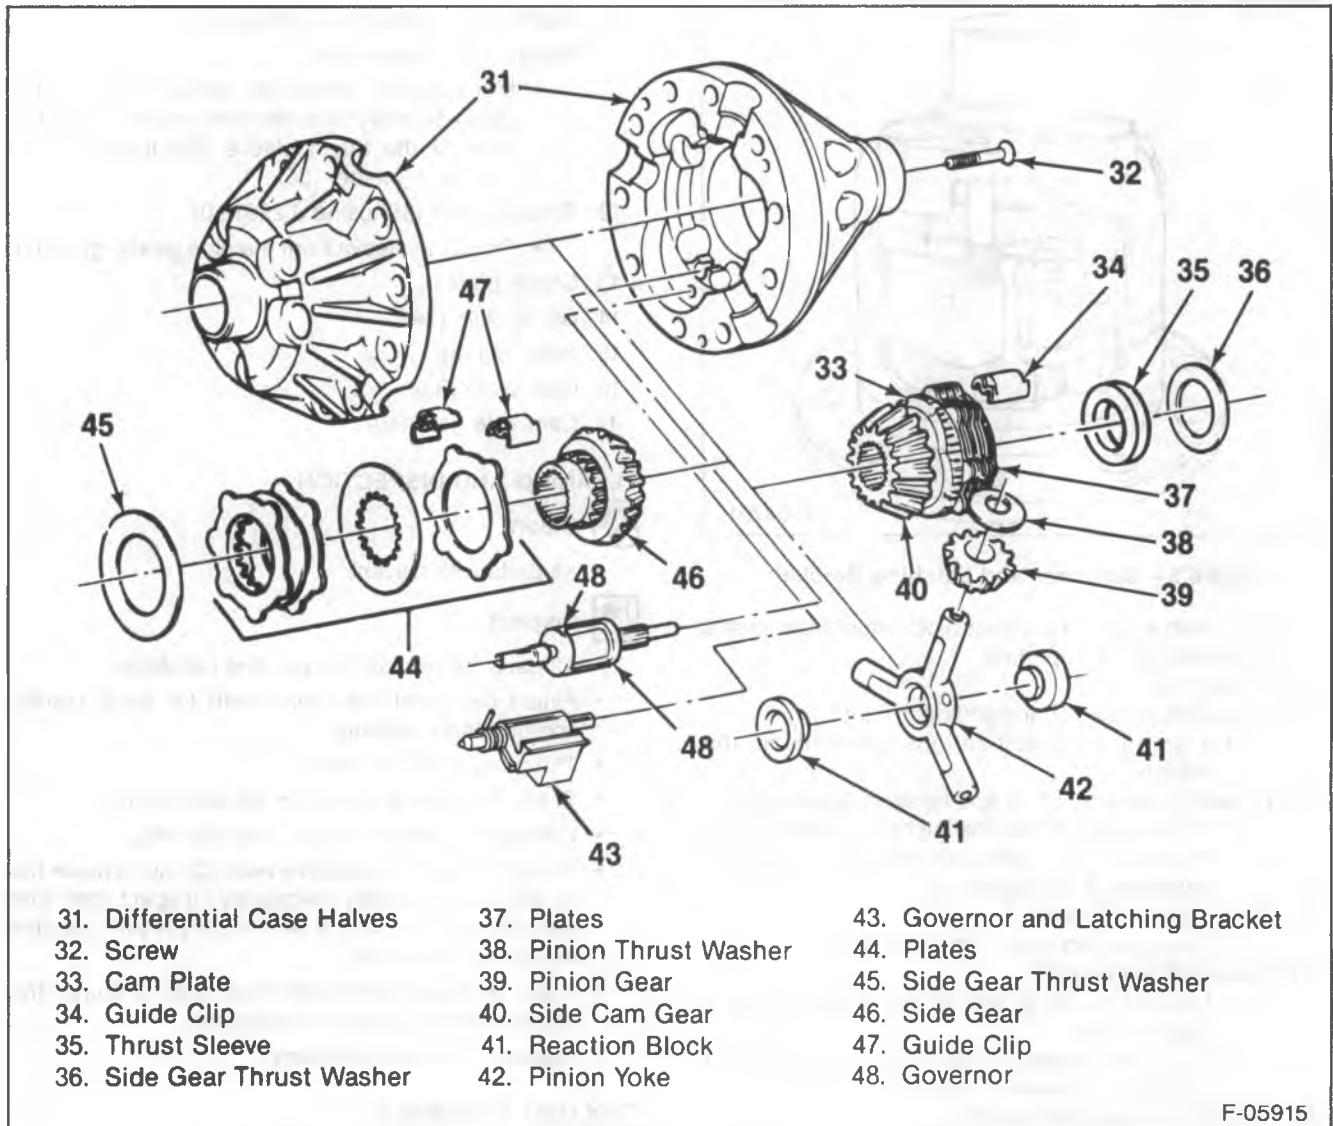

Figure 9—Differential Components
↔ Remove or Disconnect (Figure 9)
Install or Connect (Figure 9)
↔ Install or Connect (Figure 9)
3. Reaction blocks (41), pinion yoke (42), pinion gears (39), and pinion thrust washers (38).
4. Left thrust washer (45).
- Assemble the plates as shown in figure 9 and 12.